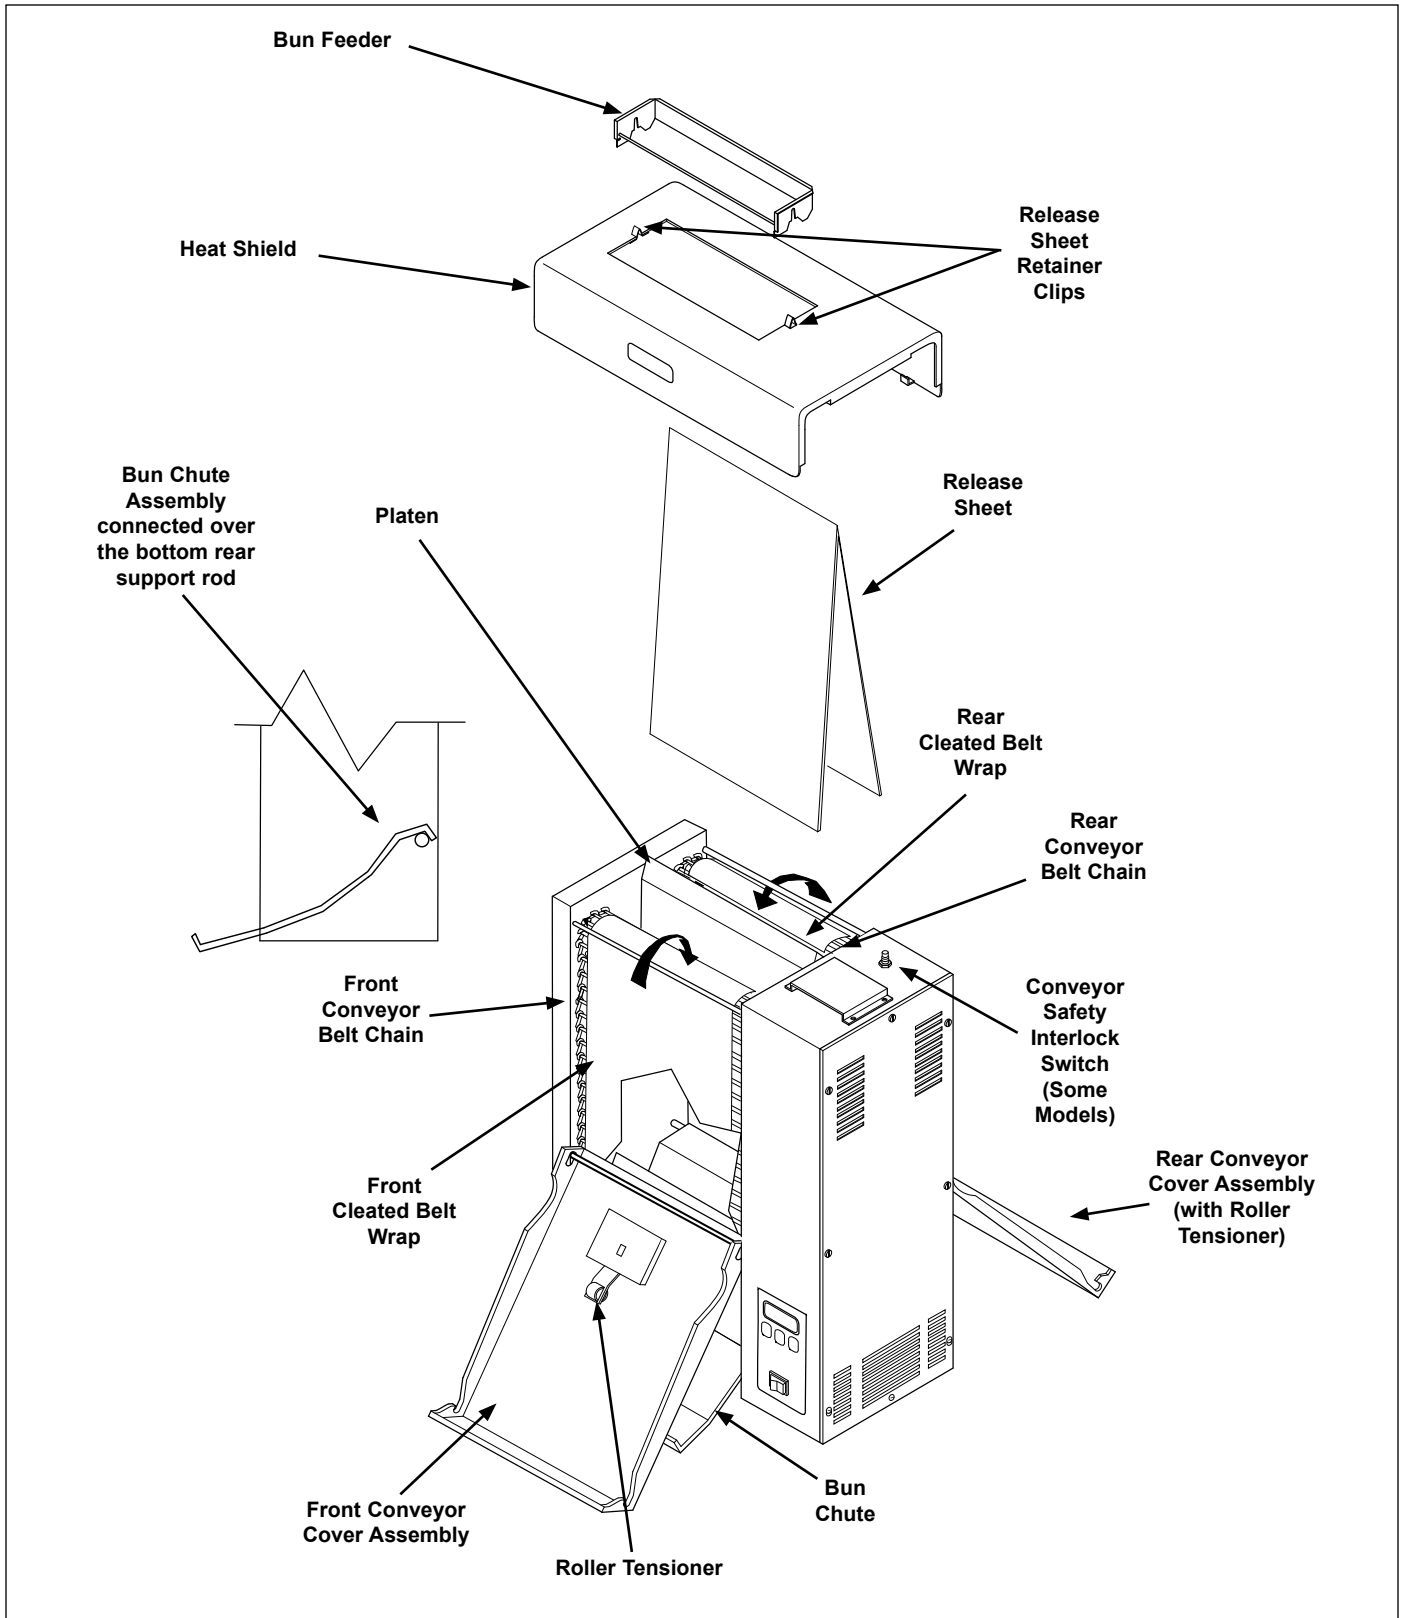

Figure 1. VCT-2000 Toaster
- Bun Chute (Figure 1)
- Bun Feeder (Figure 1)
- Two Release Sheets (Figure 1)
**NOTE:** The factory has pre-installed a Release Sheet over the Platen (Figure 1). Verify that it is properly in place before proceeding.
1. Remove Bun Chute and Bun Feeder from the box and install (Figure 1).
2. Put on heat-resistant gloves and remove the Bun Feeder, Heat Shield, and Bun Chute (Figure 1).